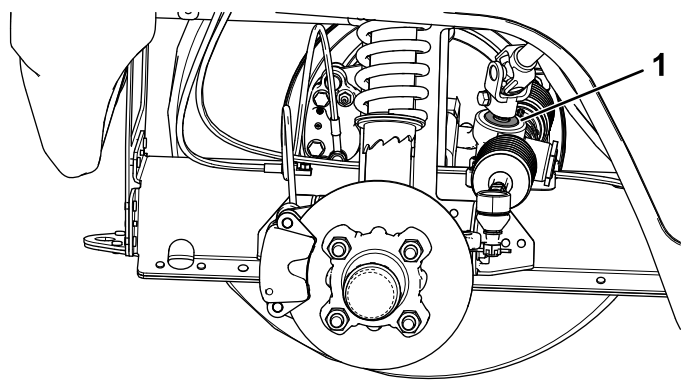

Figure 52
- **Important:** Inspect the condition and security of the pinion-shaft seal (Figure 52).